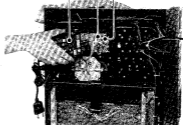

Figure 2.
4. Remove the four screws fixing the protector PC board. (Figure 2)